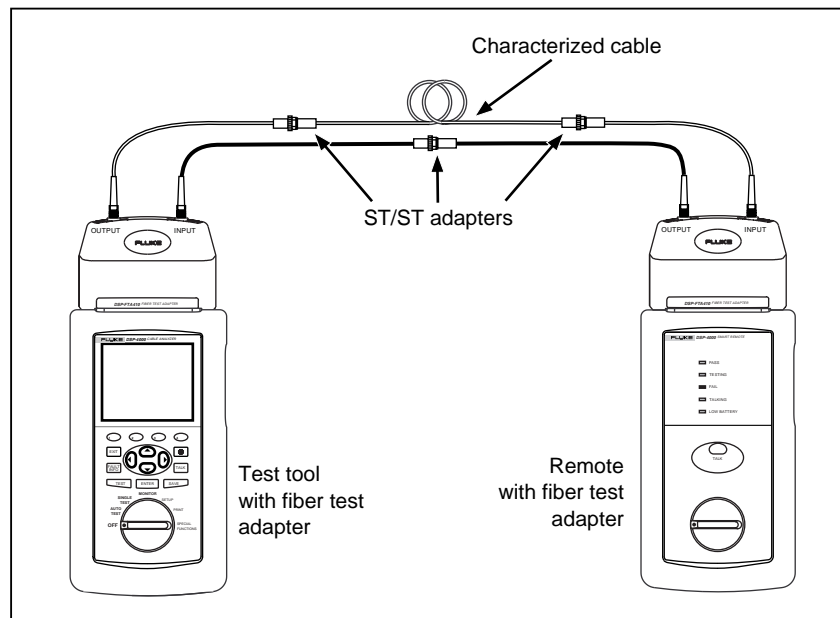

Figure 4. Verifying Length Measurements in Smart Remote Mode
4. Connect the characterized 2000 m ST/ST multimode cable as shown in Figure 4. Run the **Length** test and verify that the length measurement is within $\pm 1.5\%$ (± 1 m) of the characterized length. Press **EXIT**.